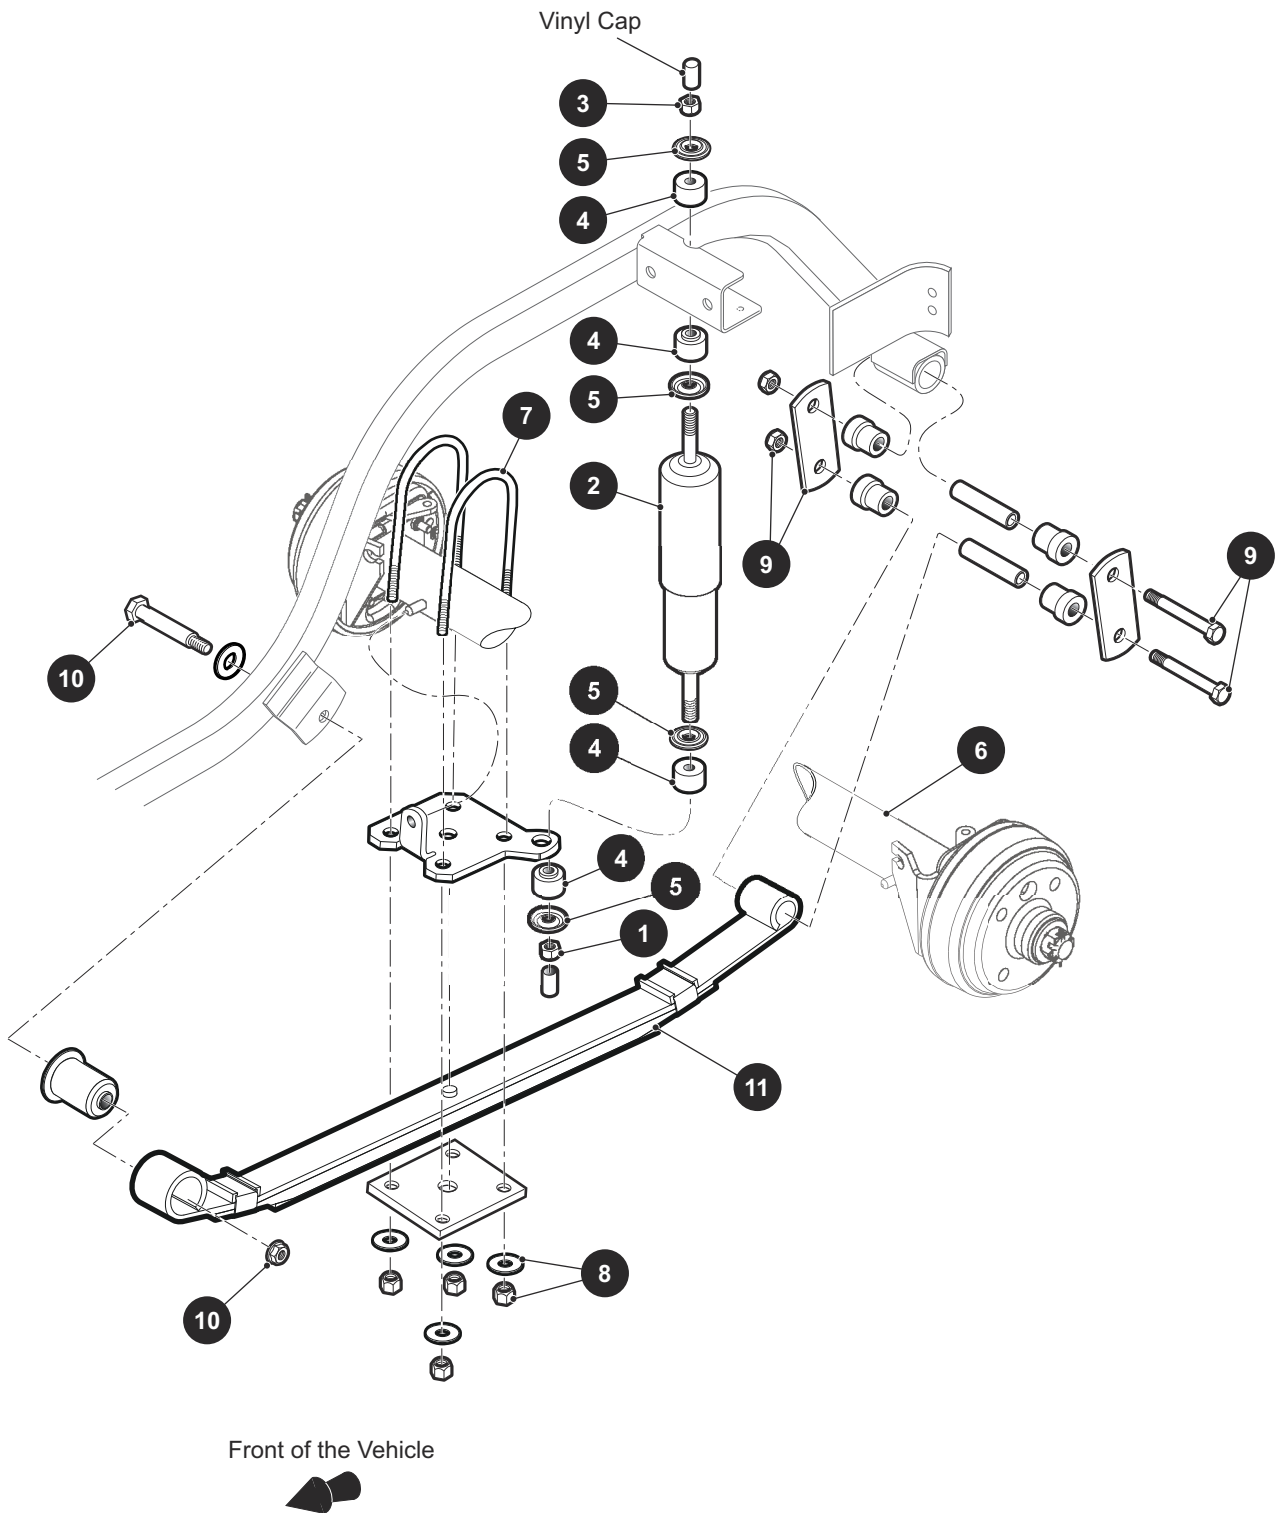

Fig. 1 Rear Suspension
The rear suspension consists of the rear axle and attachments that secure it to the springs and shock absorbers (Ref. Fig. 1). In addition the rear axle is secured to the rear of the engine by means of a casting that is bolted to the engine and mounted to the rear axle with 'U' bolts. This section is confined to the removal and replacement of the springs and shock absorbers. Rear axle shaft removal is covered in REAR AXLE section.
2. Remove the bottom shock absorber nut (1) (Ref. Fig. 1).
3. Compress the shock absorber (2) and remove the top shock absorber nut (3).
5. Shock absorber installation is in the reverse order of disassembly except that the shock absorber nuts (1,3) must be tightened until the shock absorber bushings (4) expand to the diameter of the shock absorber washer (5).
1. Remove the bottom shock absorber nut (1) (Ref. Fig. 1).
2. Place a floor jack under the center section of the rear axle (6) and raise enough to place a second set of jack stands under the axle tubes.
3. With both the rear axle and the frame supported, the 'U' bolt (7) and the hardware (8) can be removed.
4. Remove the rear spring shackle assembly (9) and the front spring mounting hardware (10).
5. Remove the spring (11).
7. The shock absorber nuts (1,3) must be tightened until the shock absorber bushings (4) expand to the diameter of the shock absorber washer (5) (Ref. Fig. 1).
8. Tighten the front spring hardware (10) to 21 - 25 ft. lbs. (28 - 34 Nm) torque.